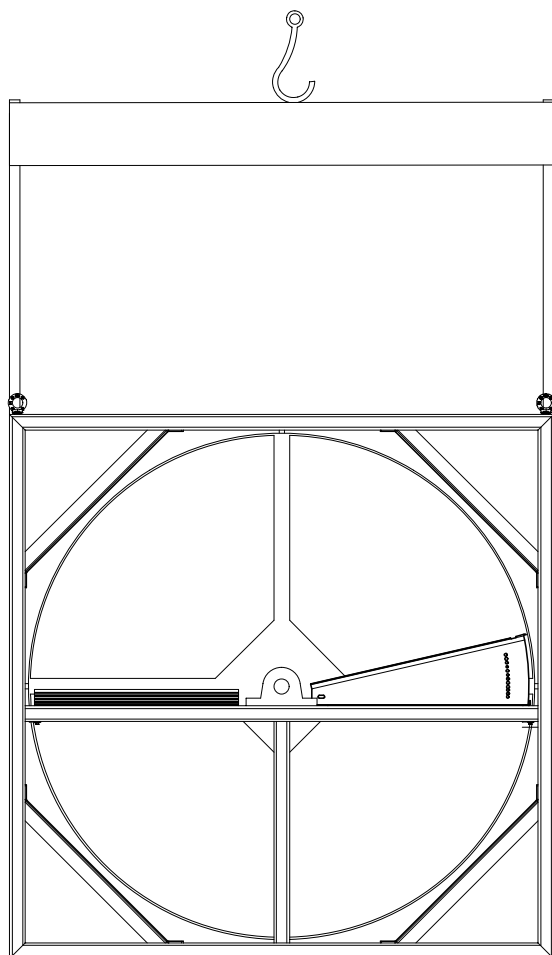

Figure 4.1
WARNING: When unloading the energy recovery wheel, lift only with the lifting eye bolts located on top of the unit. DO NOT lift the unit from the bottom with a forklift or any other device. Lifting eye bolts are located on top of unit casing (see figure 4.1). When lifting and handling the unit, be sure that lifting forces are applied uniformly to all lifting points.
- Before lifting, always ensure the chains or slings are vertical (see figure 4.1 and 4.2).